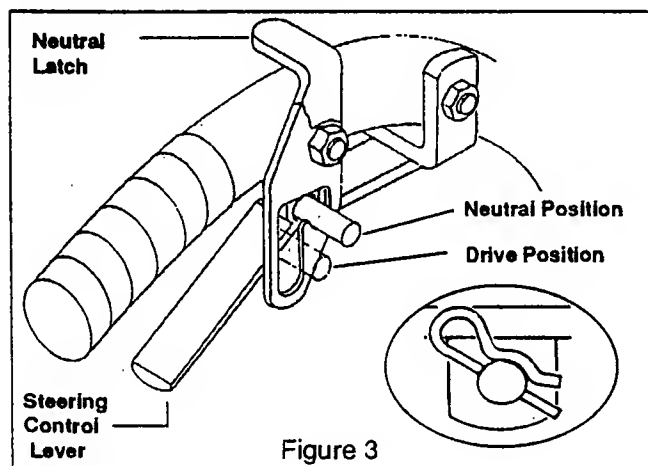

Figure 3
5. Installing steering control rods. Thread rod into swivel joint. Adjust length of rod so that with the handle neutral latch in the neutral position, (See figure 3) the swivel joint is centered in the slot on the bellcrank (See figure 2). This is easily confirmed by wiggling the handle control lever up and down. The bellcrank should not move if the swivel joint is centered in the slot. **This is a very, very important adjustment for safe operation!**